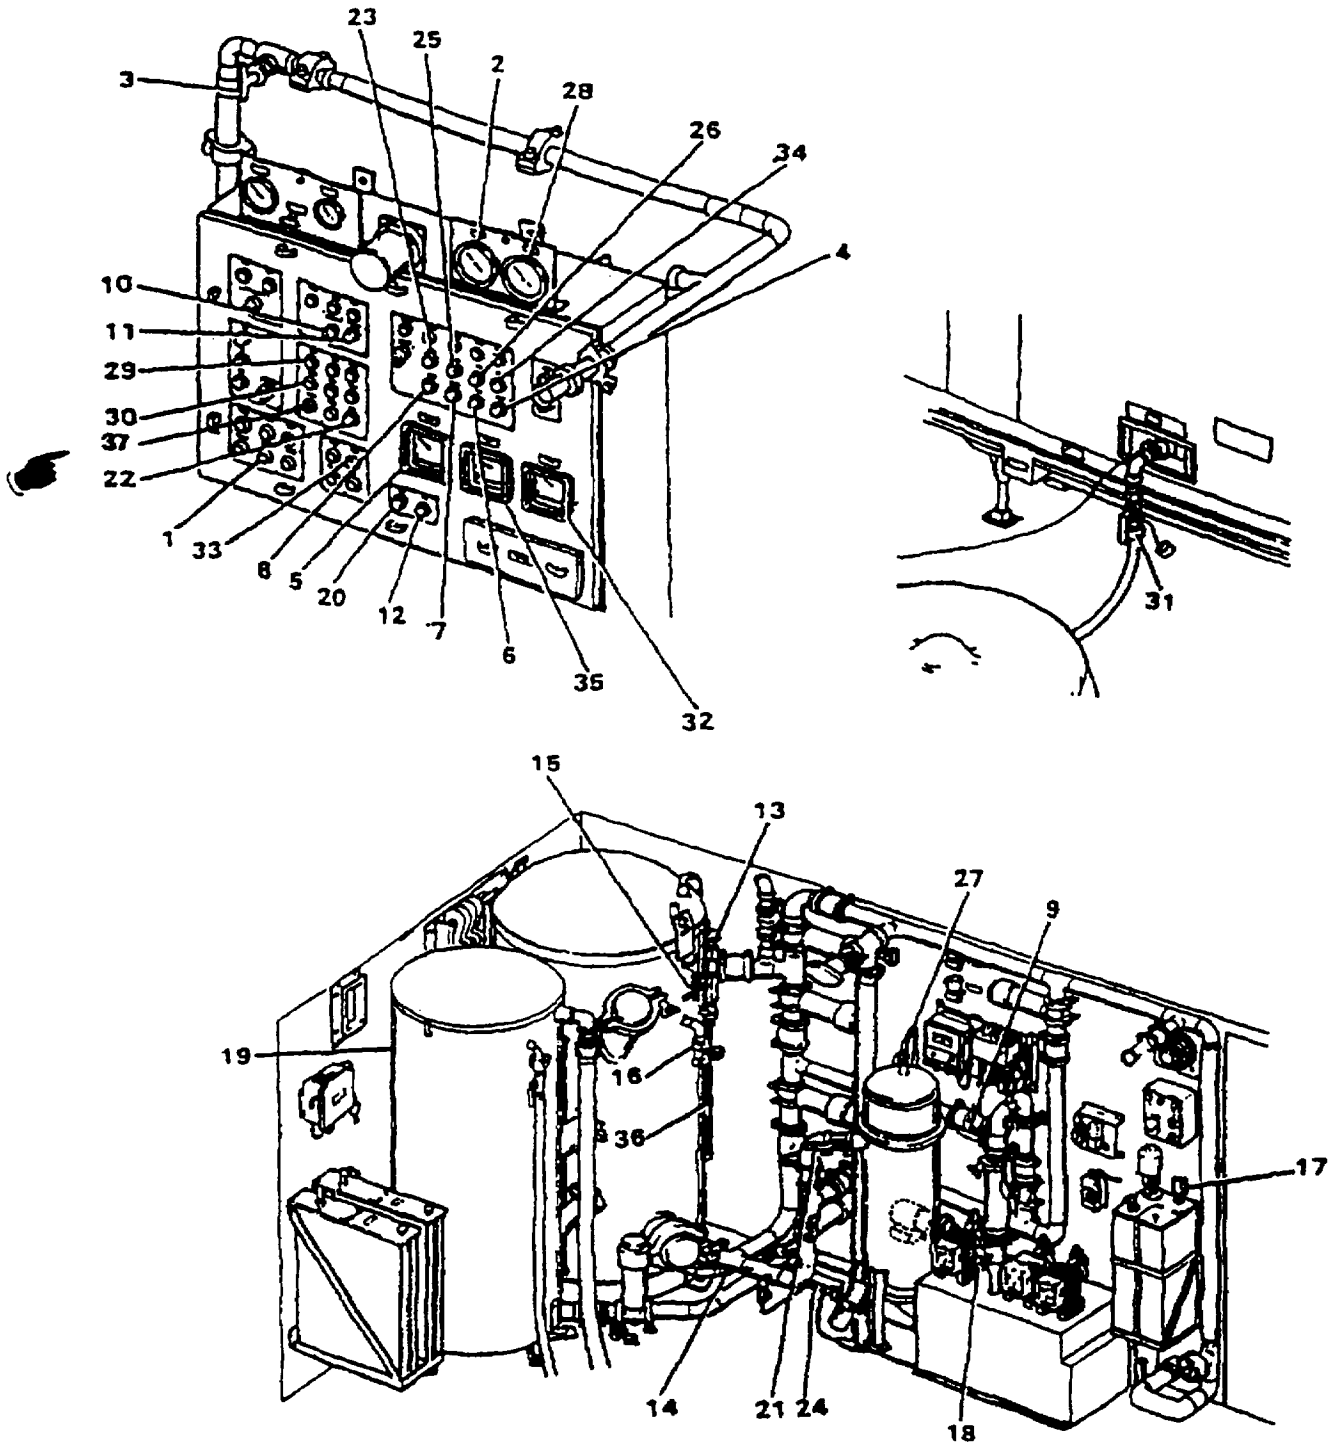

Figure 2-51. Media Filter Backwash
2-21. MEDIA FILTER BACKWASH (Figure 2-51).
- (1) Fully open system pressure control valve (Item 3, Figure 2-51).
- (2) Push HIGH PRESSURE PUMP STOP (4) and wait for the feed control to drop below 60 gpm (227 lpm)
- (3) Wait for the feed flow meter (5) reading to stop dropping and then push in sequence. CHEMICAL PUMP (7) and RAW WATER PUMP (8) STOP pushbuttons
- (4) Close feed valve (9) almost completely.
- (5) Close system pressure control valve (3).
- (6) Set OPERATION MODE switch (10) to FILTER BACKWASH.
- (7) Push INITIATE (11).
- (8) If the feed pressure low alarm sounds, push SYSTEM RESET (12).